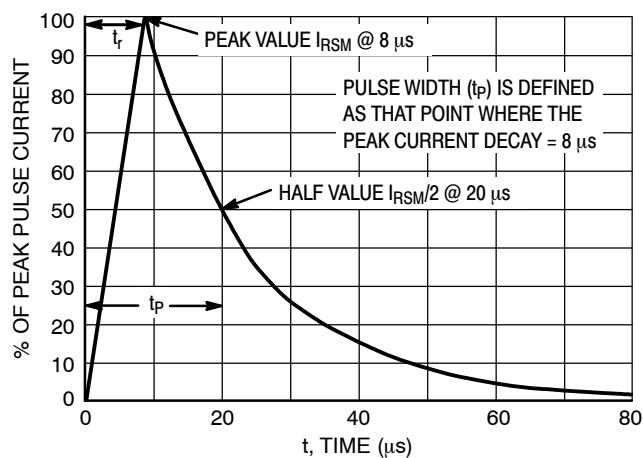

Figure 5. 8 X 20 μs Pulse Waveform
1. Surge current waveform per Figure 5.